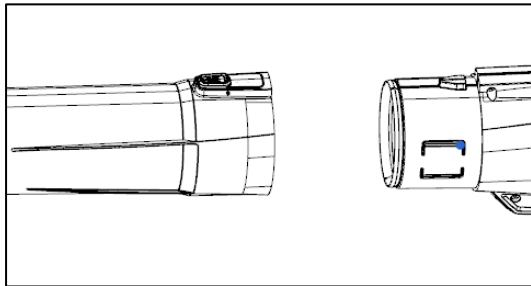
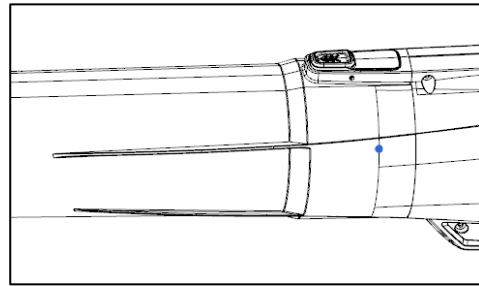

Fig 2
Fig 3
2. Align the tube with the lug on the blower housing (Fig 2). Push the tube onto the blower housing until the latch snaps into place(Fig 3).